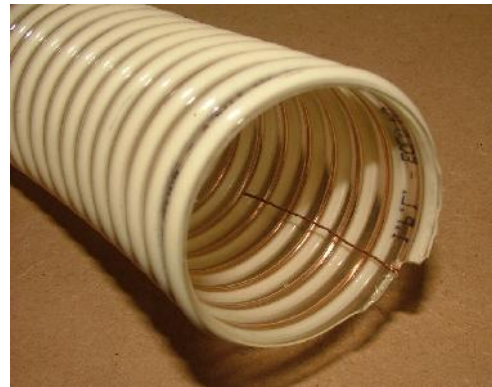

Figure 4-10. Anti-static wire folded in
3. Place one of the jubilee clips provided over the end of the tube. Fold the anti-static wire back inside the tube. Refer to Figure 4-10.